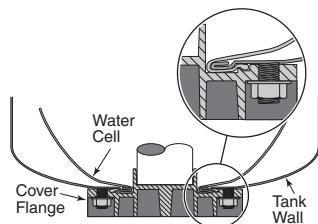

**Figure 4 – Roll diagonally toward neck**
- To get tightest possible wrap, start on one side at top and TIGHTLY roll water cell diagonally to other side (see Figure 4). To force out as much air as possible, be sure to roll toward water cell neck opening.